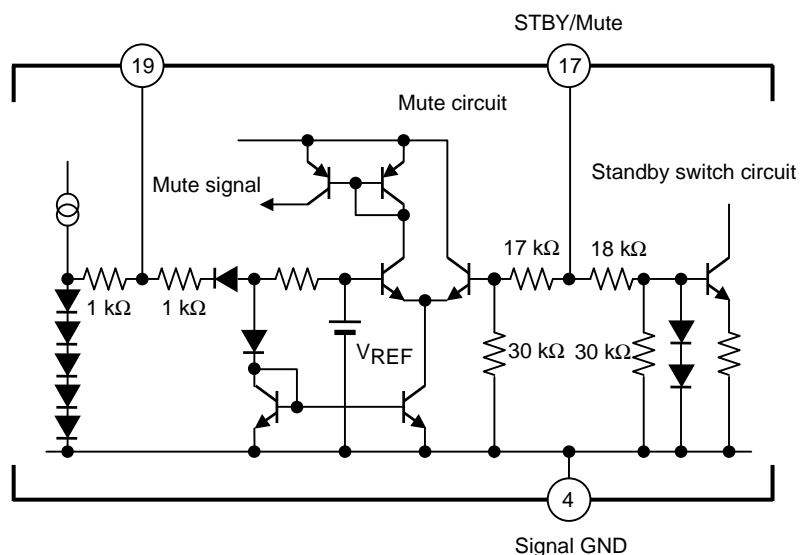

Figure 4 Internal Equivalent Circuit for Pins 17 and 19
- Pin 17 functions as a three position switch that controls the standby and muting functions. The table below lists the IC operating state as controlled by the voltage applied to pin 17. (See figure 4 for the equivalent circuit for the pin 17 input circuit.)